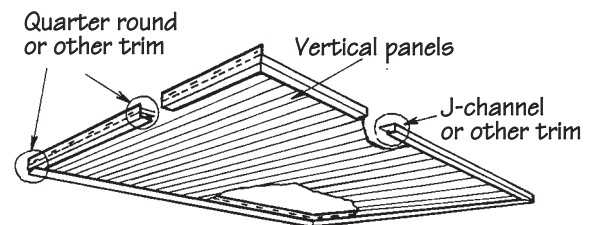

Figure 73.
1. Begin by installing receiving channels on all four sides of the porch (Fig. 73). If F-receivers are being used, nail them to the existing walls. If J-channels are being used, a nailing base will have to be installed.